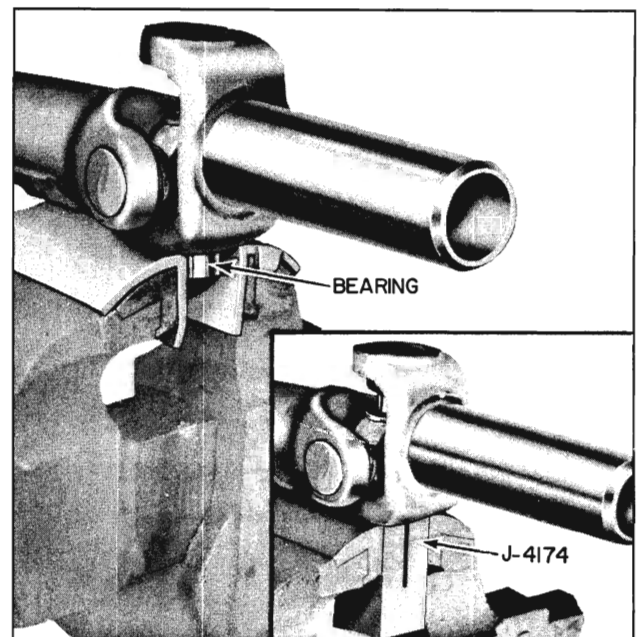

Fig. 6-4 Bearing Removal (Saginaw)
4. Clamp the partially exposed bearing in a brass jawed vise, then tap yoke until bearing is removed. (Fig. 6-4) Remove bearing from vise.
NOTE: The use of Tool J-4174 will facilitate removal of bearings. (Inset, Fig. 6-4)